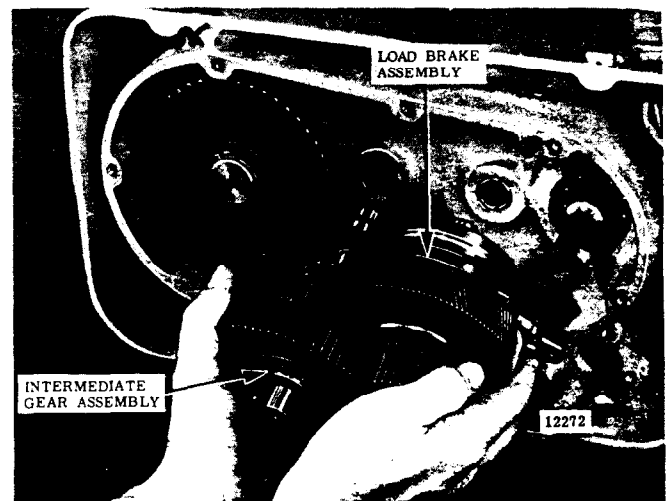

Figure 5-5. Removing Load Brake and Intermediate Gear Assemblies.
c. To inspect gearing, pull out intermediate gear and pinion assembly, and load brake assembly (Fig. 5-5). Do not remove drum gear unless visual inspect indicates replacement is necessary.